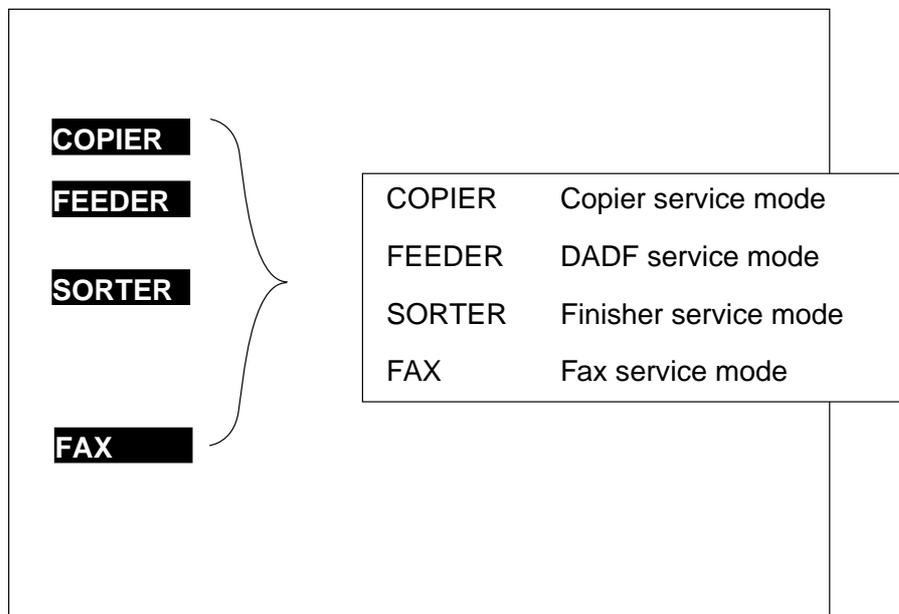

Figure 14-801
- The display changes to the screen shown in Figure 14-801, indicating the connected accessories (FEEDER, SORTER, FAX).
Press the Reset key once to return to the Service Mode Initial screen (Figure 14-801).